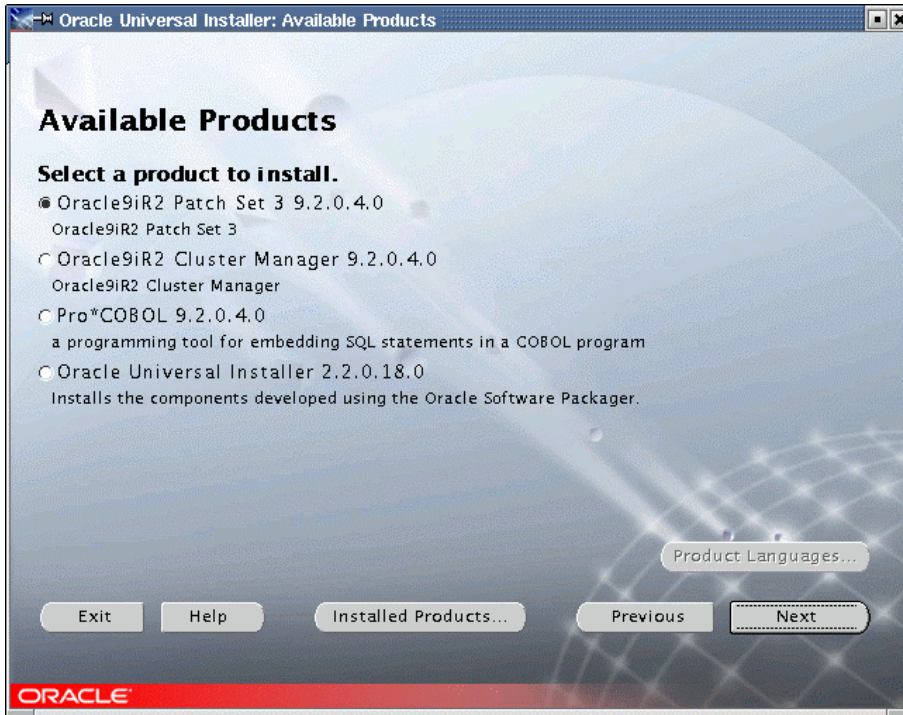

Figure 64. Available Products
- On the Available Products screen, select Oracle9iR2 Patch Set 3 9.2.0.4.0, as shown in Figure 64. Click **Next** to continue.